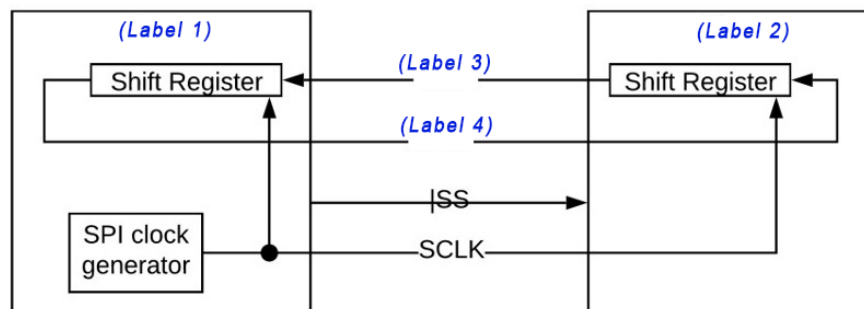

Figure 1: SPI interface with missing labels
- a. The 7-bit data word 0b1010111 is to be transmitted with a parity bit appended; what would be the final 8-bit data word that is transmitted in both odd- and even-parity systems? (2)
- b. SPI uses a Slave Select line to initiate communication with a specific slave device, whereas I2C (Inter-Integrated Circuit) uses a different means of selecting the slave device with which the master communicates. Explain how this is done, and describe what would happen if an error occurs during this slave selection process. (2)
- c. RS-485 uses a "twisted cable" configuration; what is the purpose of this? (2)
(i) Figure 1 shows the basic structure of the SPI protocol's interface. Provide names for the four missing labels. (2)
- (ii) SPI is said to be a full-duplex protocol. Explain what this means and make reference to Figure 1 in your answer. (2)